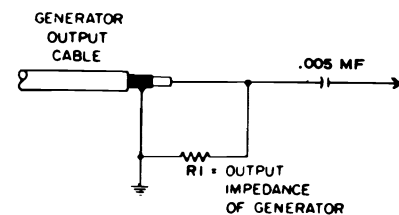

Figure 6 - Generator Cable Termination
**Generators** — Except where otherwise noted, all signal generating equipment should be terminated as shown in Figure 6. Connect the signal cable ground near the ground of the stage where the signal is injected.